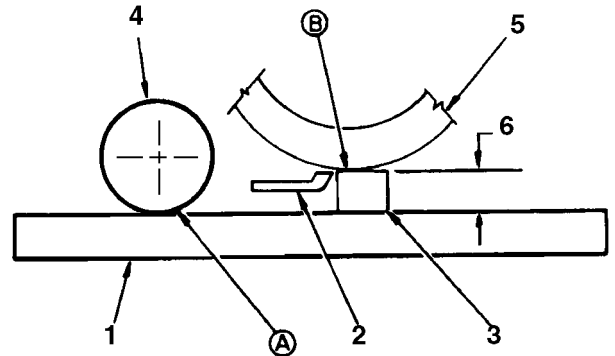

Figure 4
- Insert a piece of bar stock 70 cm long (Fig. 4), and approximately 3 mm thicker than the desired height-of-cut, under the reel and up against the bedknife cutting edge (Fig. 4). The reel (not bedknife)
- E. Insert piece of bar stock (Fig. 4) 70 cm long with thickness equal to desired height-of-cut, under the entire length of the reel, next to the bedknife.